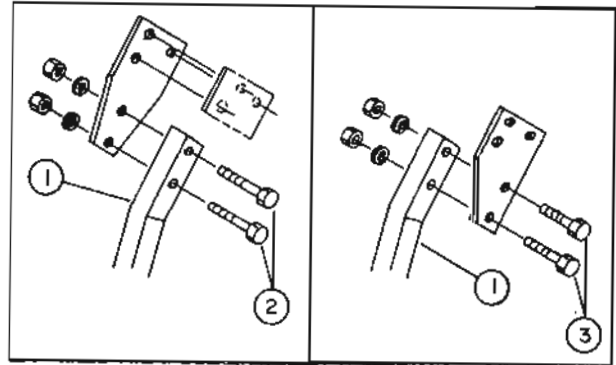

FIGURE 6 (right hand side shown)
g) Install subframe bars (fig.6, item 1) on mid support brackets according to your tractor model:
- B1550 & B1750, Bolt bars inside mid support brackets, using four $3/8"$ x $1\ 3/4"$ bolts (fig.6, item 2), lockwashers and nuts (bolt heads on inside).
- B7100, Bolt bars outside mid support brackets, using four $3/8"$ x $2\ 1/4"$ bolts (fig.6, item 3), lockwashers and nuts (bolt heads on inside).